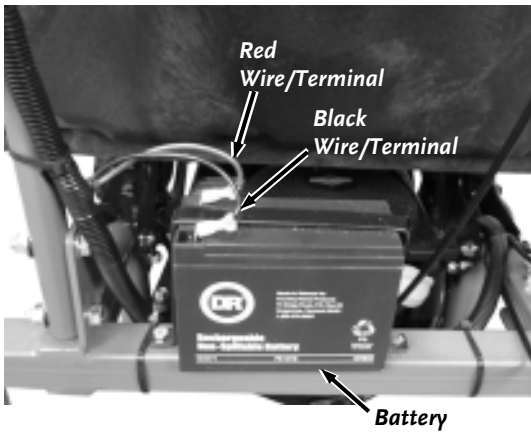

Figure 38
1. Detach the two Battery wires from your Battery (**Figure 38**).